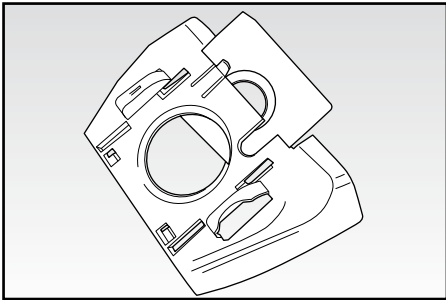

Fig. 9
- Take out the bag by sliding the stiff section along the apposite guides of the support (FIG. 9). Empty it and in case of fabric bag wash it with water and mild detergent.